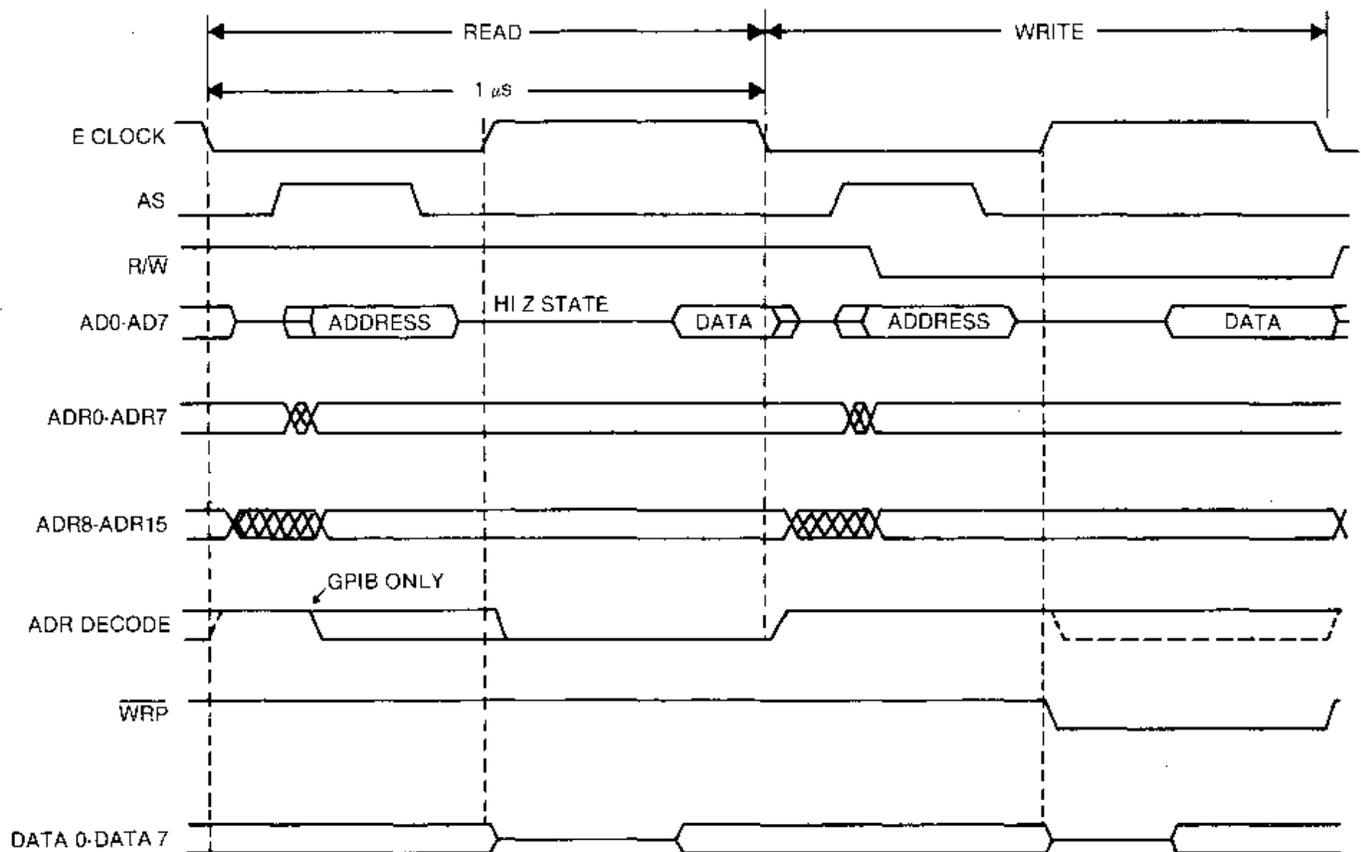

Figure 4-4. Microprocessor Timing Diagram
A clock-generating circuit within the microprocessor uses an external 4 MHz crystal, Y1, between the XTAL1 and XTAL2 pins to develop its internal phase clocks and the 1 MHz system enable clock (E). Figure 4-4 shows the approximate timing for major signals and busses in the microprocessor/memory system. Actual system timing varies somewhat from instrument to instrument, so signal spacing may be different within the 1  $\mu$ s period of the system clock.
An octal latch, U4, demultiplexes the address/data bus from the microprocessor to hold the low-order addresses (ADR0-ADR7) during the part of the E clock cycle that data occurs on the multiplexed bus. Latching occurs on the negative transition of the AS signal (U3, Pin 39). See timing diagram, figure 4-4.